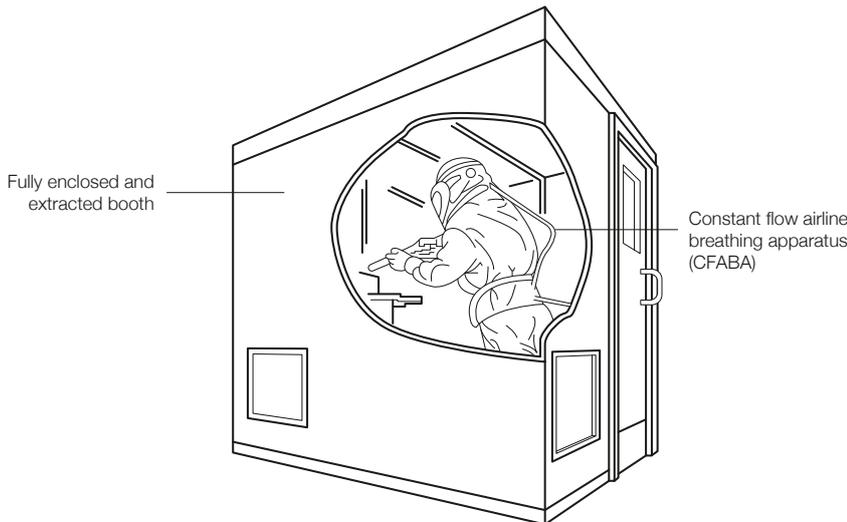

Figure 2 Shot-blasting in an enclosed and extracted booth
- ✓ Where castings are larger in size, use a fully enclosed, extracted booth with the operator working inside, protected with a blasting helmet and airline breathing apparatus (see Figure 2). Keep the enclosure under negative pressure.